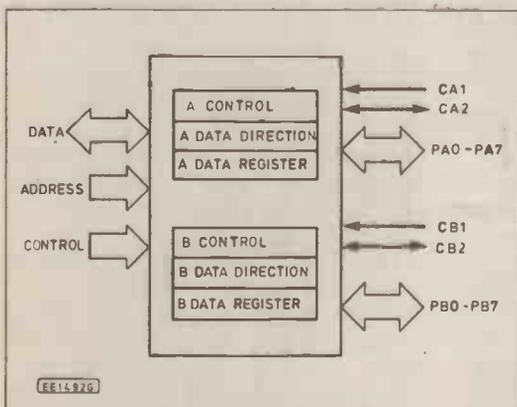

Fig. 9.7. See questions 19 and 20.
19. (4.2.3) Which one of the following gives the function of the lines marked CA1 and CA2 in Fig. 9.7?
20. (4.2.4) Which one of the following describes the function of the control register in Fig. 9.7?